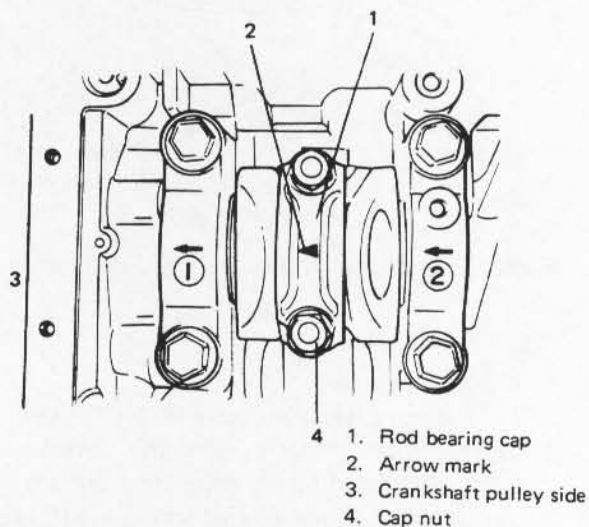

Fig. 3-5-36 Installing bearing cap
- 4) Install rod bearing cap to connecting rod. When installing cap, be sure to point arrow mark on cap to crankshaft pulley side, as indicated in Fig. 3-5-36. Tighten the cap nuts to the specified torque. **DO NOT** turn crankshaft with gaging plastic installed.